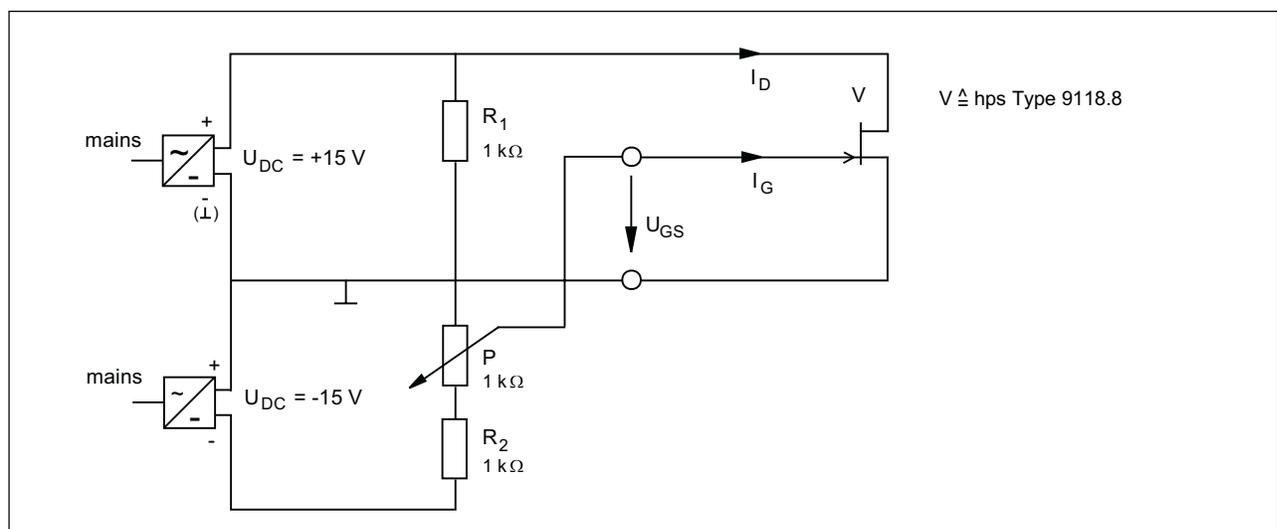

Fig. 5.3.2.1
- Set up the circuit according to Fig. 5.3.2.1 and adjust the gate/source voltage  $U_{GS}$  in steps according to Table 5.3.2.1. Measure each corresponding gate current  $I_G$  and drain current  $I_D$  with the multimeter and enter the values in Table 5.3.2.1 or 5.3.2.2 as applicable.
- Plot a graph showing the dependence of the gate current  $I_G$  on the gate/source voltage  $U_{GS}$  on the diagram (Fig. 5.3.2.2).